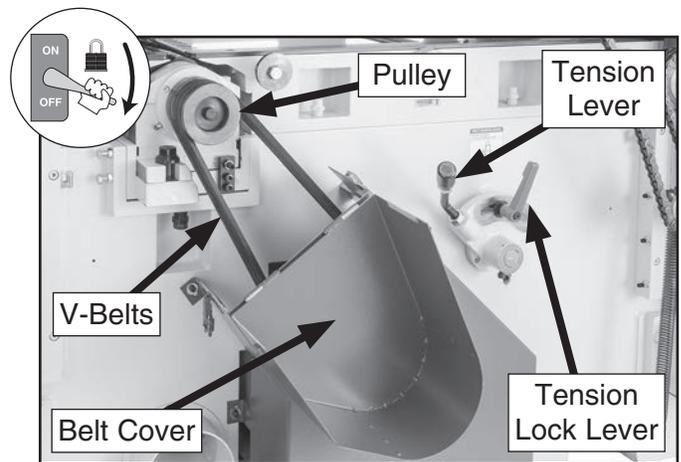

Figure 49. Lower cutterhead belt cover opened.
2. Open chain drive access door and lower cutterhead belt cover (see **Figure 49**).
3. Loosen tension lock lever and pull up on tension lever until there is slack between V-belts and lower cutterhead pulley (see **Figure 49**). While pulling tension lever up, tighten tension lock lever.